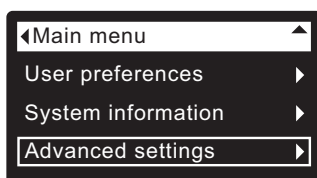

FIG. 71
1. From any of the rolling status screens, press the SELECT (O) button to display the **Main menu**.
2. Press the DOWN (▼) button to scroll through the menu options until **Advanced settings** is highlighted (See Figure 71).